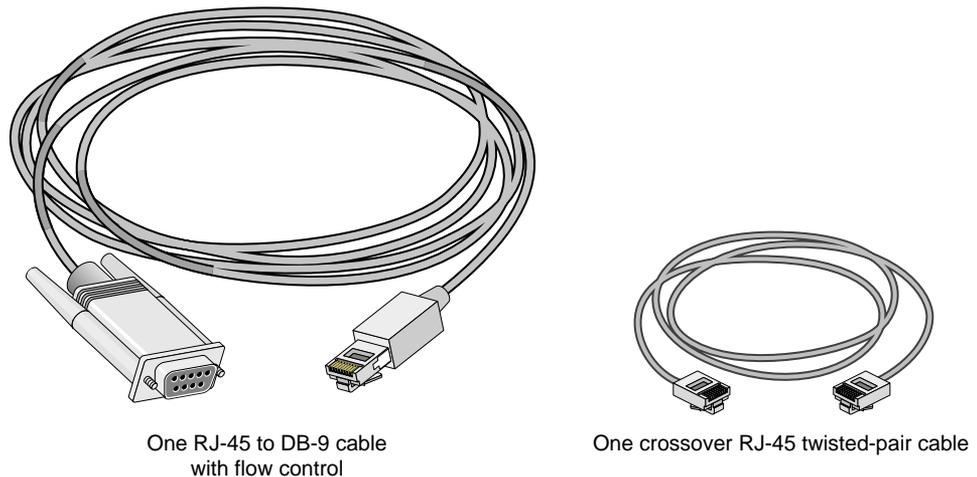

Figure 2-9 Items Needed to Connect SGIconsole to an SGI Origin 300 Server
3. Make sure that you have the following items (shown in Figure 2-9):